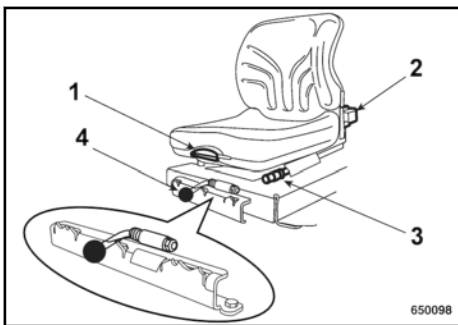

Fig. 31
Pull up lever (1) ↗ Fig. 31 and adjust the backrest.